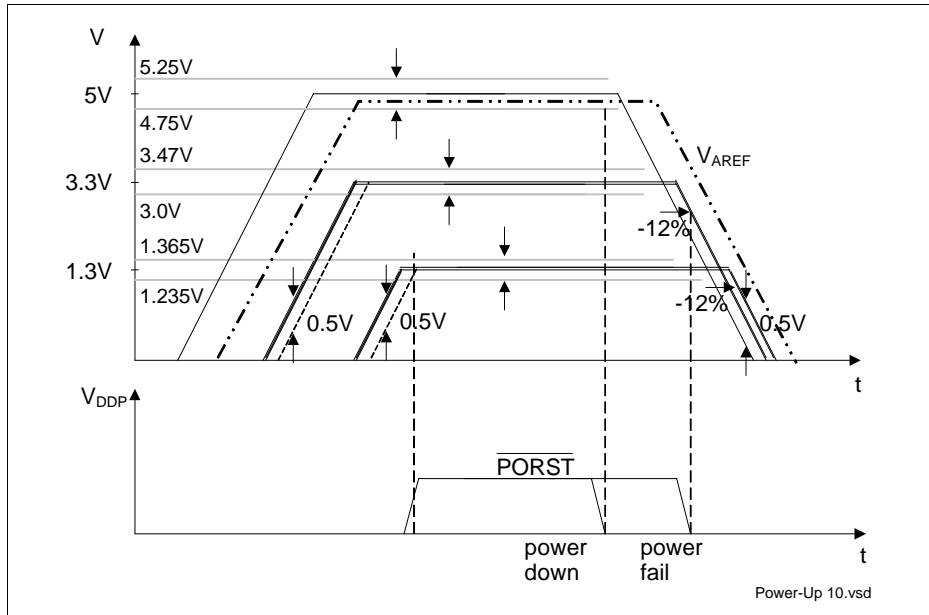

Figure 13 5 V / 3.3 V / 1.3 V Power-Up/Down Sequence
- At any moment in time to avoid increased latch-up risk, each power supply must be higher than any lower_power_supply - 0.5 V, or: $V_{DD5} > V_{DD3.3} - 0.5 \text{ V}$; $V_{DD5} > V_{DD1.3} - 0.5 \text{ V}$; $V_{DD3.3} > V_{DD1.3} - 0.5 \text{ V}$, see Figure 13.